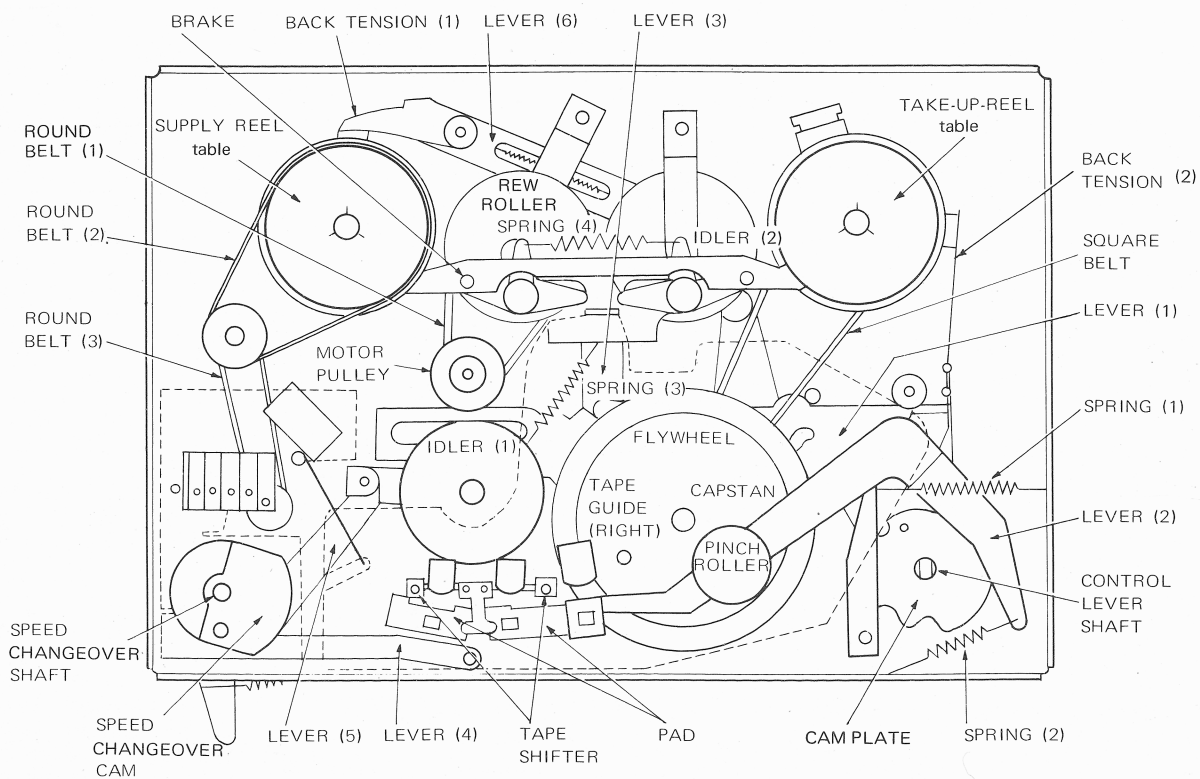
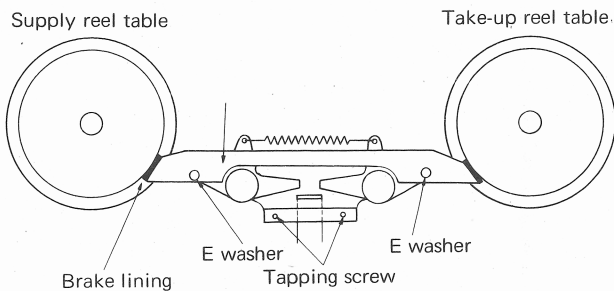

Fig. 1
Fig. 7
Fig. 1 shows an explanatory view giving relative positions of various levers, and idlers with respect to control lever being in the STOP position.
The tape counter used is a pushbutton reset type decimal four-digit counter which can be reset to "0" by one-touch action. Turn of reel table is communicated to intermediate pulley through the medium of round belt 2, which drives the counter pulley to register the number of revolutions of the reel table on tape counter. (See Fig. 1)
No particular adjustment is required for the brake of this machine. It may happen, however, that the following procedures be taken when the brake ratio gets out of order by soiled brake lining. (Fig. 7)
Flywheel must be demounted before replacing the thrust play adjusting washer and square belt. Follow the steps explained below. (Refer to Figs. 1 and 10) Remove setscrew from capstan, and remove capstan sleeve, cap and oil seal rubber washer in the said order. After removal of spring 1 and spring 2 shown in Fig. 1, remove five setscrews from head panel. With the entire head panel being raised, pull flywheel out downward while disengaging the square belt. Thus, the replacement of either thrust play adjusting washer or flywheel or both can be accomplished. After replacement and reassembling, thoroughly clean square belt with alcohol.
11. Replacement of REW roller (Refer to Figs. 1, 6 and 7)
Remove five screws from head panel, and make the whole head panel assembly raised a little. (It is recommended to remove spring 1, spring 2 and spring 3 shown in Fig. 1 beforehand.) Remove two tapping screws which have secured the brake mechanism to chassis (see Fig. 7), and take out the whole brake mechanism. After removal of E-washer and nylon washer from REW roller shaft, pull out the REW roller while disengaging round belt from motor.
12. Replacement of idler 1 (See Fig. 1)